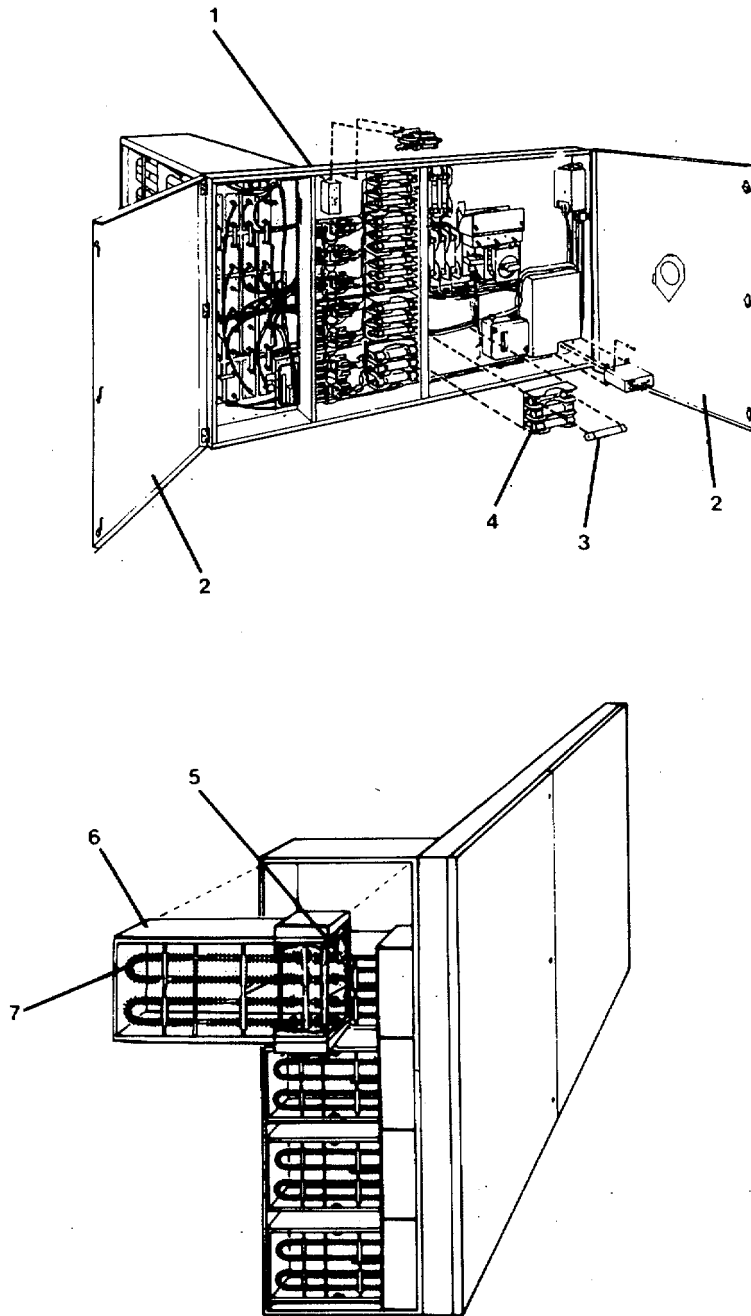

Figure 2-7. Duct Heater (Duct #1).
**2-17. Repair Heater, Duct Type, Stationary (Duct #1). (FIGURE 2-7)**